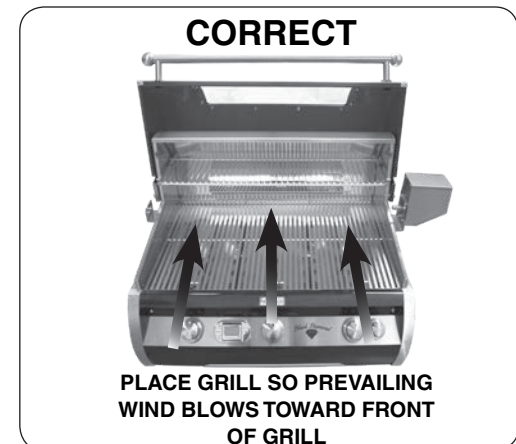
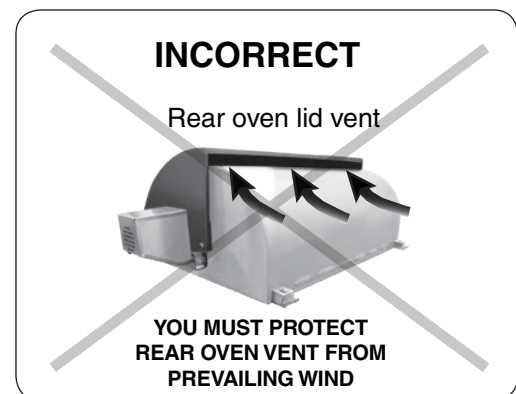

Fig. 12-3 Airflow direction - CORRECT
Fig. 12-4 Airflow direction - INCORRECT
**CAUTION:** Wind blowing into or across the rear oven lid vent (Fig. 12-4) can cause poor performance and/or dangerous overheating. Install the grill so that the prevailing wind blows toward the front of the grill (Fig. 12-3).